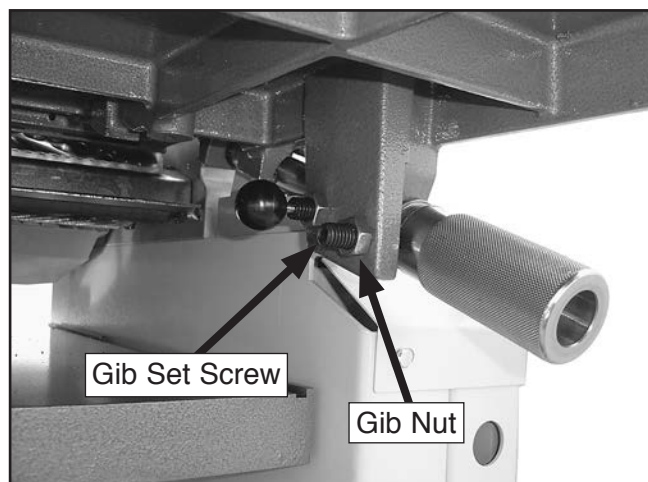

Figure 87. Infeed table gib control.
1. Using an adjustable wrench, loosen the infeed table gib nut under the rear of the table (**Figure 87**).